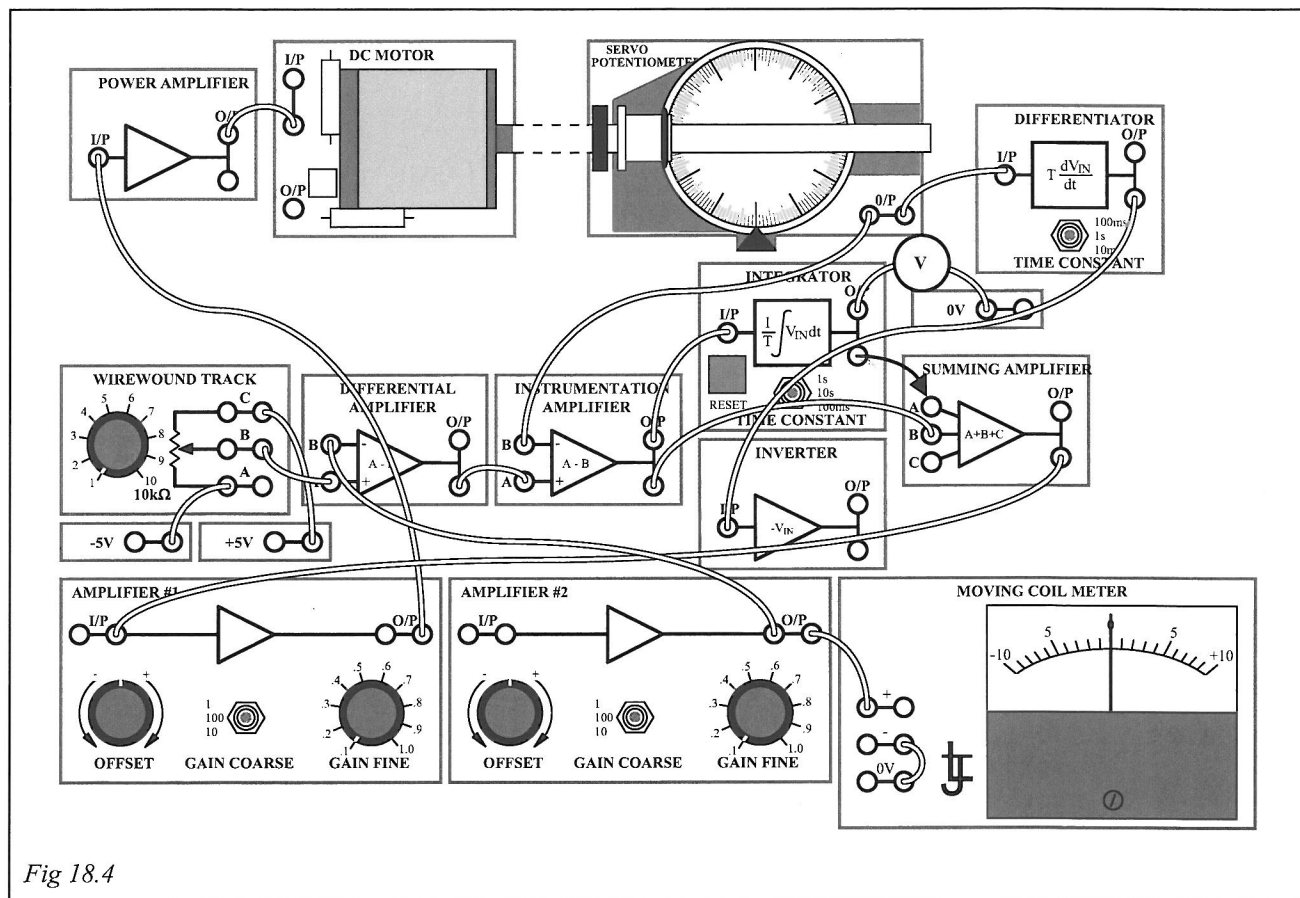

Fig 18.4
- If necessary, re-connect the circuit as shown in Fig 18.4 (without the Integrator output connected initially). Re-check the settings as follows:
- Restore the power connection to the Motor. With the Integrator time constant set to 1s, press and hold the RESET button, connect the Integrator output lead to the Summing Amplifier input as shown by the arrow in Fig 18.4 and then release the RESET button.